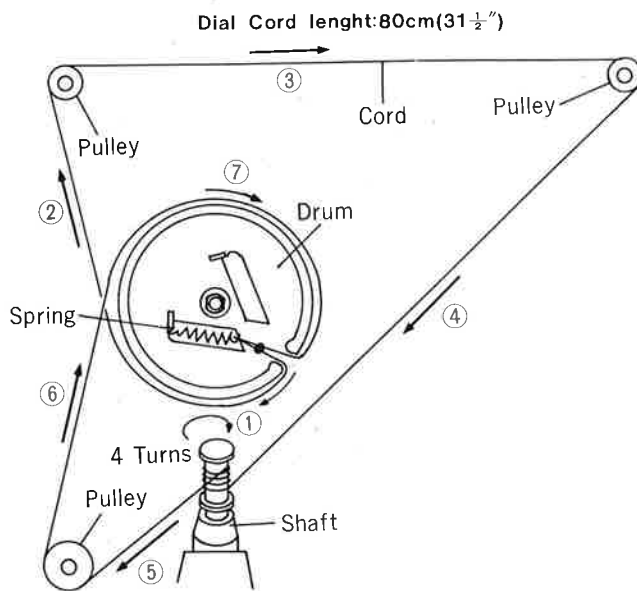

Fig. 7
3. Arrows (1~7) indicate correct order and direction of dial cord installation, as illustrated in Fig. 7.